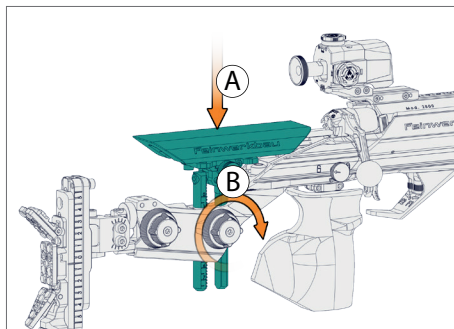

Fig. 19
- Insert the racks into the buttstock and tighten them at the desired height using the clamping screw (Fig. 19).